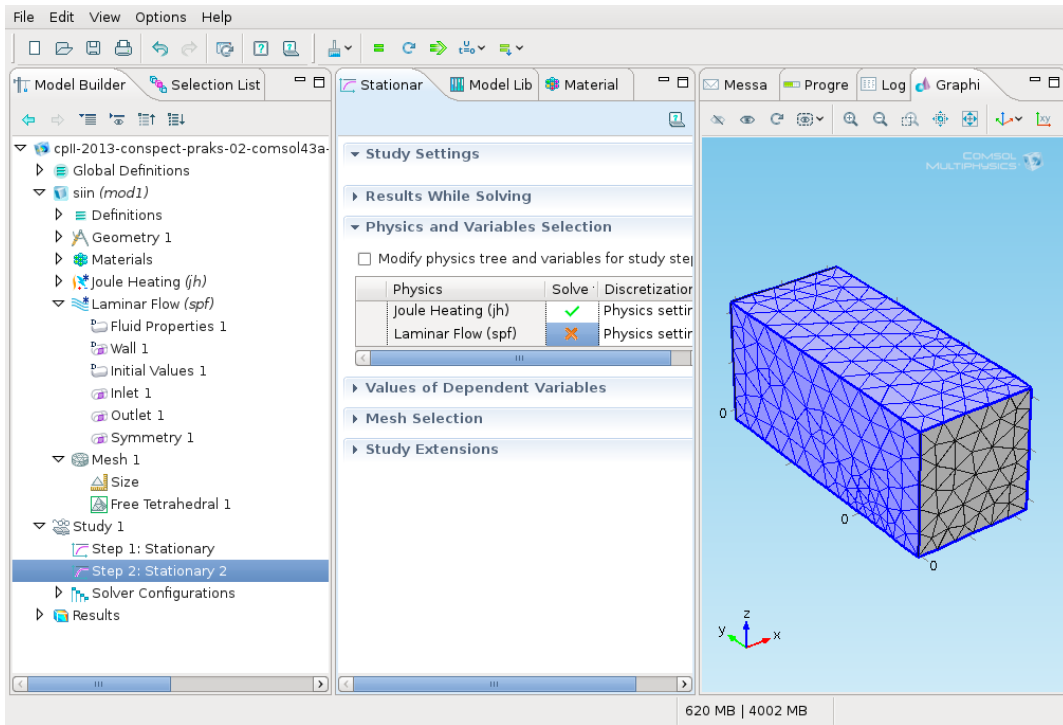

Figure 26: The parameters of the second study-step.
- 4 Mark the **Laminar Flow (spf)** as inactive for the second study step of the **Study 1** (Fig. 26).